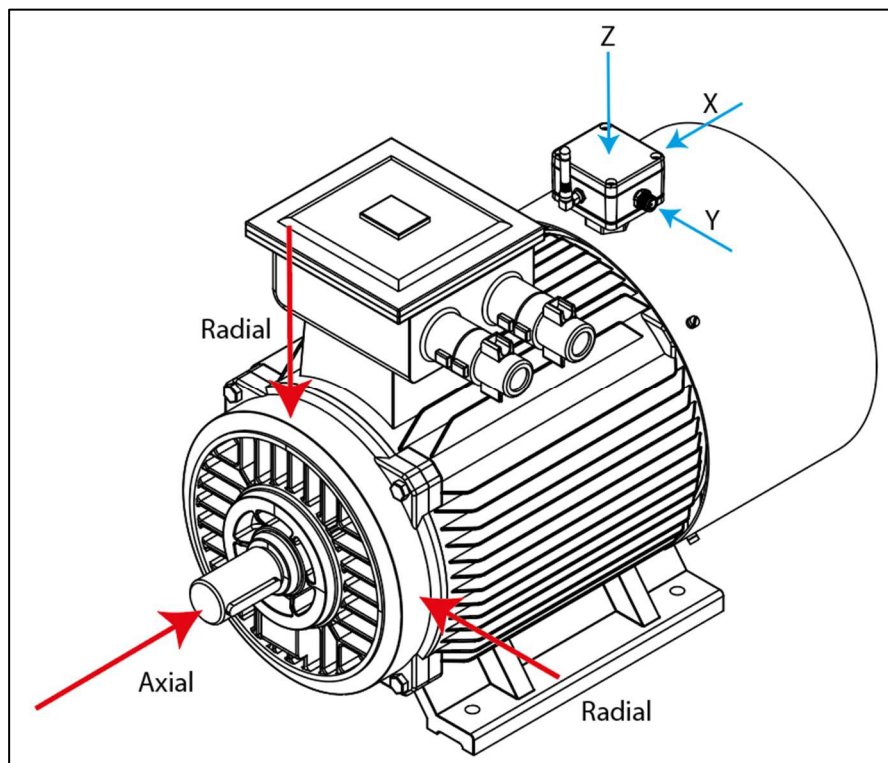

Figure 6.- Module installation – Axis orientation
4. Determine the orientation of the axis on the machine according to the axis present on the module label (Figure 6).